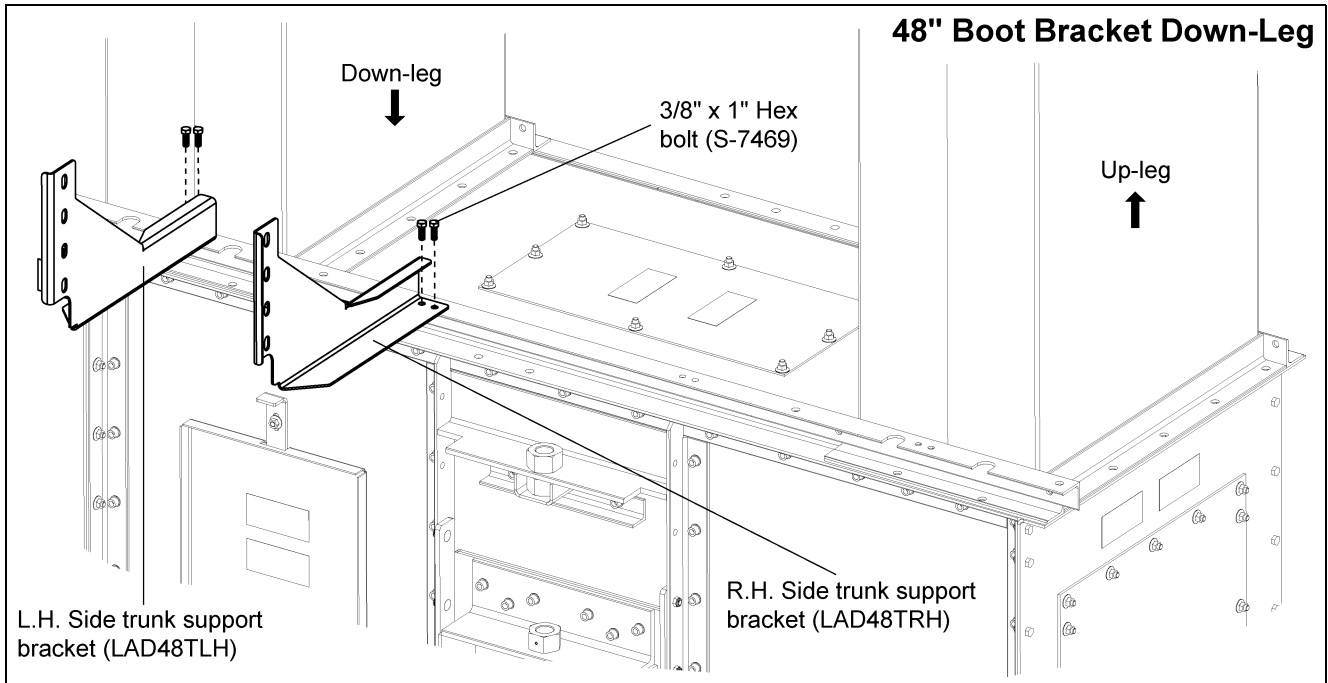

Figure 6E 48" Down-Leg Boot Bracket
3. **48" Down-Leg Boot Brackets:** Use 3/8" x 1" HHCS bolts (S-7469) and 3/8" flange nuts (S-10028) to attach the ladder support brackets (LAD48TRH and LAD48TLH) to the top of the boot tie angle using holes indicated. (See Figure 6E.)